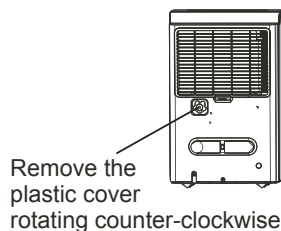
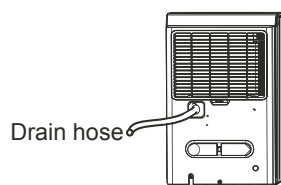

Fig. 7
Fig. 8
- Remove the plastic cover from the back drain outlet of the unit and set aside, then insert the drain hose through the drain outlet of the unit and lead the drain hose to the floor drain or a suitable drainage facility. (See Fig. 7 and Fig. 8)